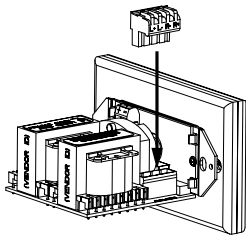

Figure 6
1. Locate the connector plugs (and remove them if they are plugged in). See **Figure 6**.
*the scalloped side of the connector plug into the smooth side of the socket. See **Figure 6**.*
6. Plug the connectors into the volume control as shown in **Figure 6**. The inputs of the IM volume control are the connector pins labeled AMPLIFIER. The outputs are the connector pins labeled SPEAKERS.